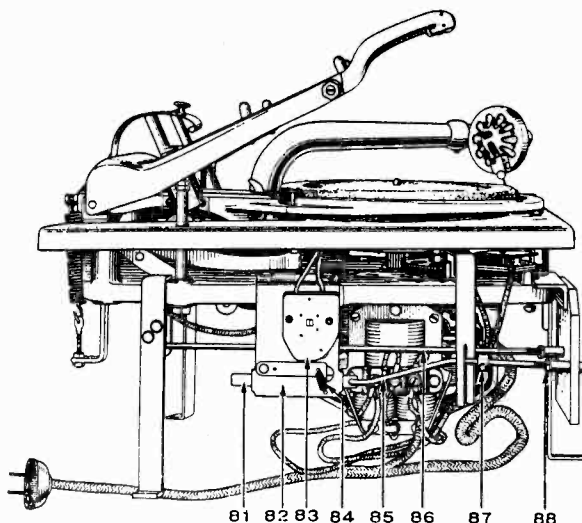

Fig. 12—Automatic Unit Side View
- a. Note that the condition is not caused by a wire between the reject rod collar 87, Fig. 12, and the fork portion of the trip lever.
d. Start switch position 83, Fig. 12, out of adjustment, preventing switch slide 81, Fig. 12, from tripping switch.
e. Defective start switch 83, Fig. 12.
- a. Defective start switch 83, Fig. 12.
- b. Defective start switch 83, Fig. 12.